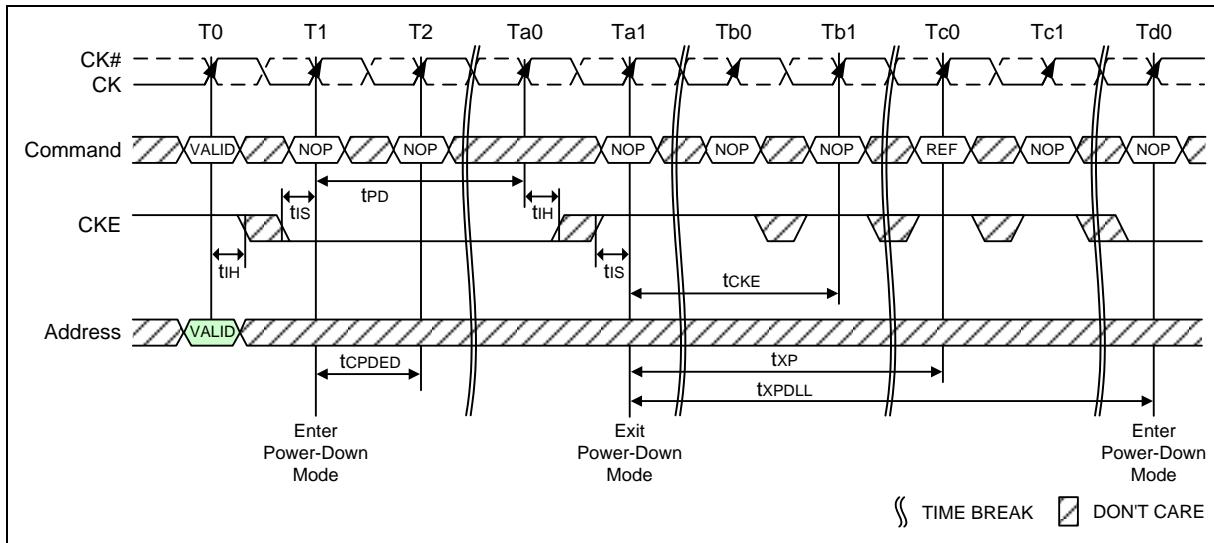

Figure 70 – Power-Down Entry/Exit Clarifications - Case 2
2) $t_{XP DLL}$ must be satisfied (referenced to the registration of PD Exit) before the next power-down can be entered. A detailed example of Case 2 is shown in Figure 70.